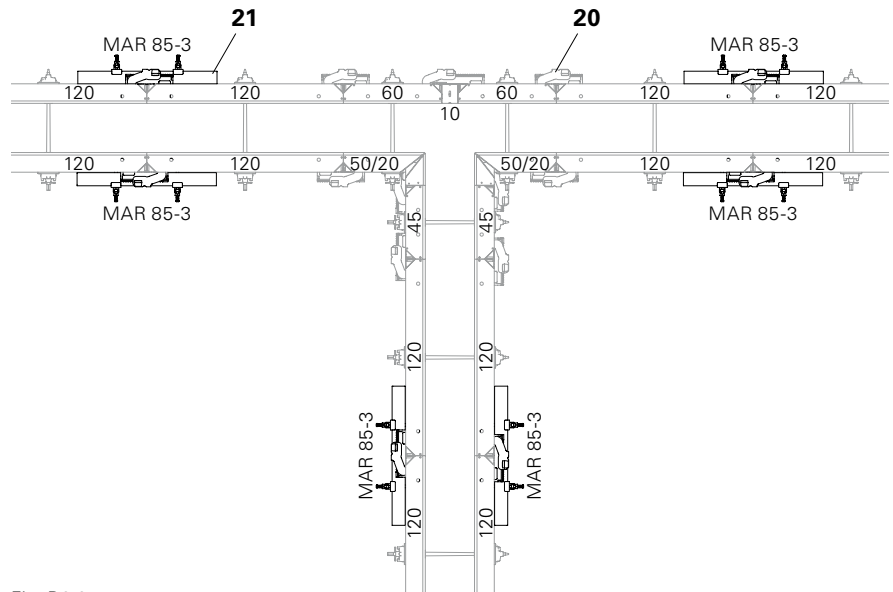

Fig. B6.01
For panels with widths $b \leq 120$ following 90° T-junctions, these must be strengthened at the next panel joint by means of a Compensation Waler MAR 85 (21). (Fig. B6.01)